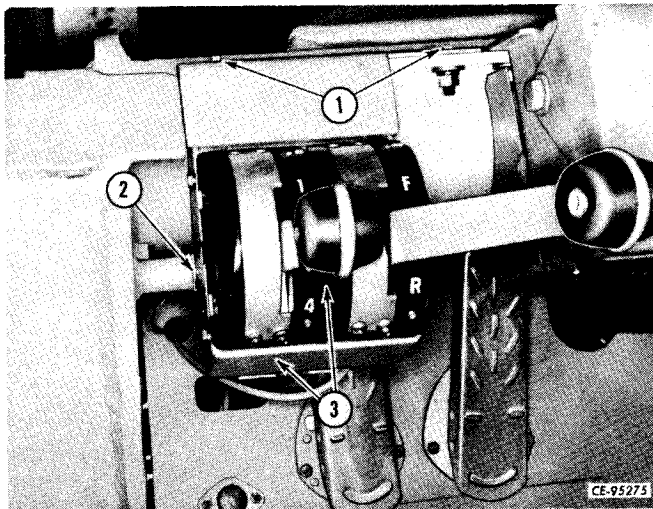

Figure 9-5
Remove control lever bracket (3, Fig. 9-5) by removing cap screws and nuts (1) and cap screw (2). Remove bracket (3) from unit and disassemble on a clean work bench.